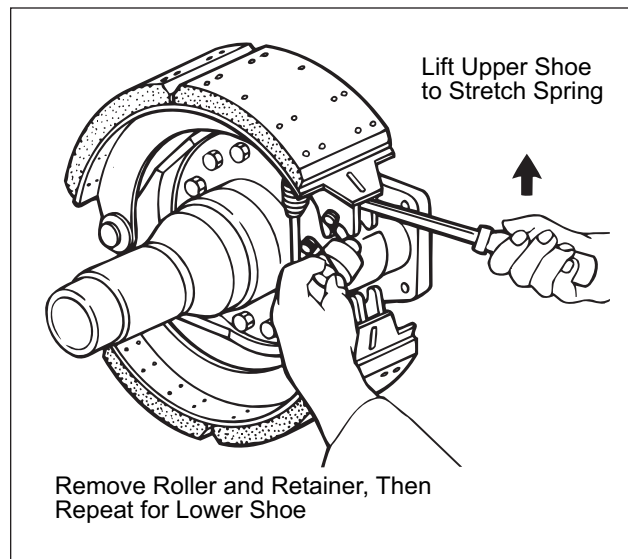

Figure 19. Roller and Retainer Removal
4. Using a lever or large screwdriver, lift upper shoe to remove roller and retainer as a unit. Refer to Figure 19.